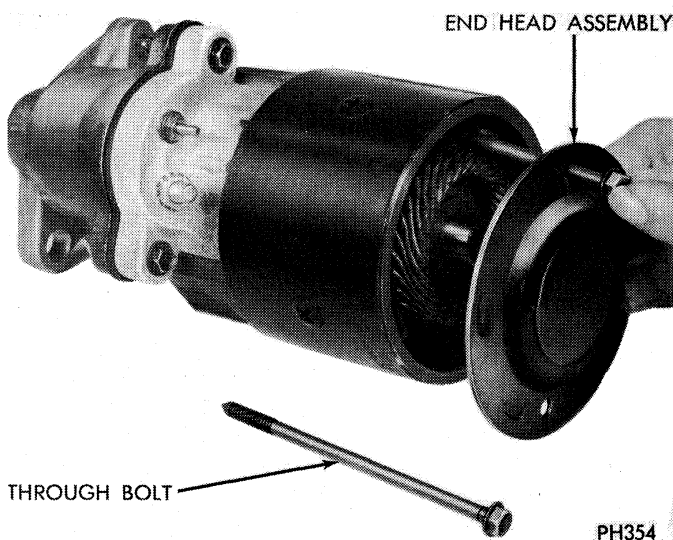

Fig. 6—Removing Through Bolts and End Head Plate
(1) Remove through bolts and end head assembly, (Fig. 6).